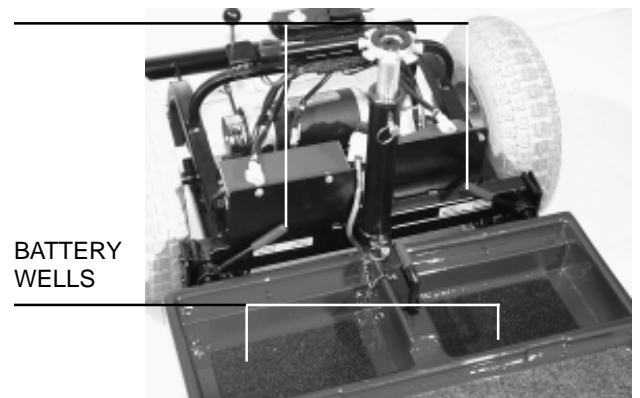

Figure 18. Frame Locking Levers
6. Place the frame locking levers in the locked position. See figure 18.
9. Place the batteries in the battery wells (see figure 18) then reconnect the battery straps.